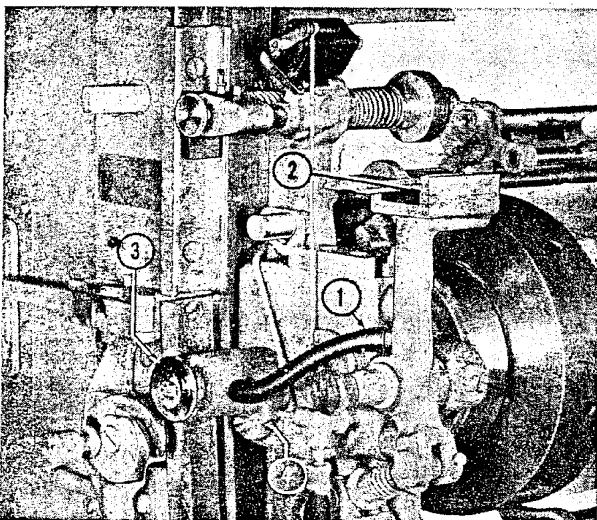

Figure 37—Hose Connection to Left Transfer Table Lever
(3) Disconnect short hose (connecting left transfer table lever to auto stop suction cylinder—left side of press) from lever nipple. (See (1) figure 37.)
(4) Connect opposite end of special hose to lever nipple, remove washer; (2) figure 37, in counter-sunk hole in top of transfer table lever and then start press motor, applying blast to air line in lever. Allow motor to run until lever air line is clean.
(5) Replace washer, disconnect blast hose from lever, and reconnect hose from auto stop suction cylinder to left transfer table lever.
(6) Remove vacuum hose from right side transfer table lever, connect blast hose and blow out air line in this lever after removing lever washer.
(7) Replace washer and reconnect vacuum hose to lever.
(8) With transfer table placed in brackets at top of press remove set screw at each end of transfer table frame.
(9) Start motor and apply air blast through vacuum holes along transfer table edge.
(10) After these holes are blown clean, cover holes with strip of gummed paper. Apply air blast to holes from which set screws were removed. While applying air blast, hold finger over table vacuum inlet hole adjacent to hole to which air blast is being applied. If air line in table is badly clogged, run a length of thin wire through line and then repeat blowing operation.
Auto-stop piston not operating freely due to excessive or gummy oil. Vent hole in auto-stop cylinder is clogged.	Check that auto-stop piston, (3) figure 37, moves freely. Check that vent hole is not clogged. See (4) figure 37.
Leak in hose between auto-stop cylinder and transfer table lever.	Check for broken hose or leaky connection. See (1) figure 37.